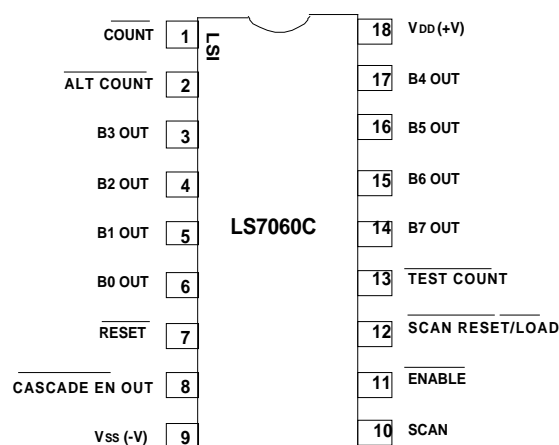

FIGURE 1
- LS7060C (DIP); LS7060C-S (SOIC) - See Figure 1